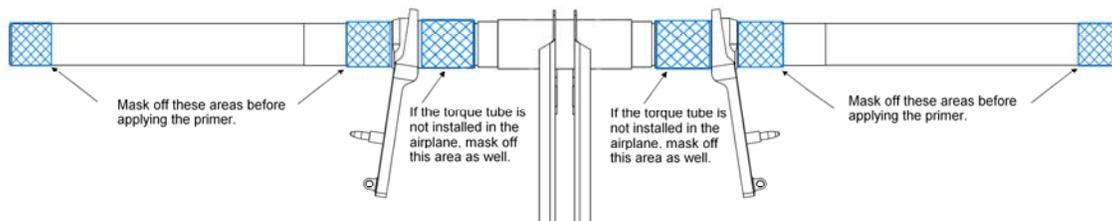

Figure 55-13 Torque Tube Areas Requiring Masking
5. Use masking tape to mask off the tip ends of the tube and the inboard area of the boss. If the torque tube is out of the airplane, mask the area of the stabilizer bearing as shown in Figure 55-13